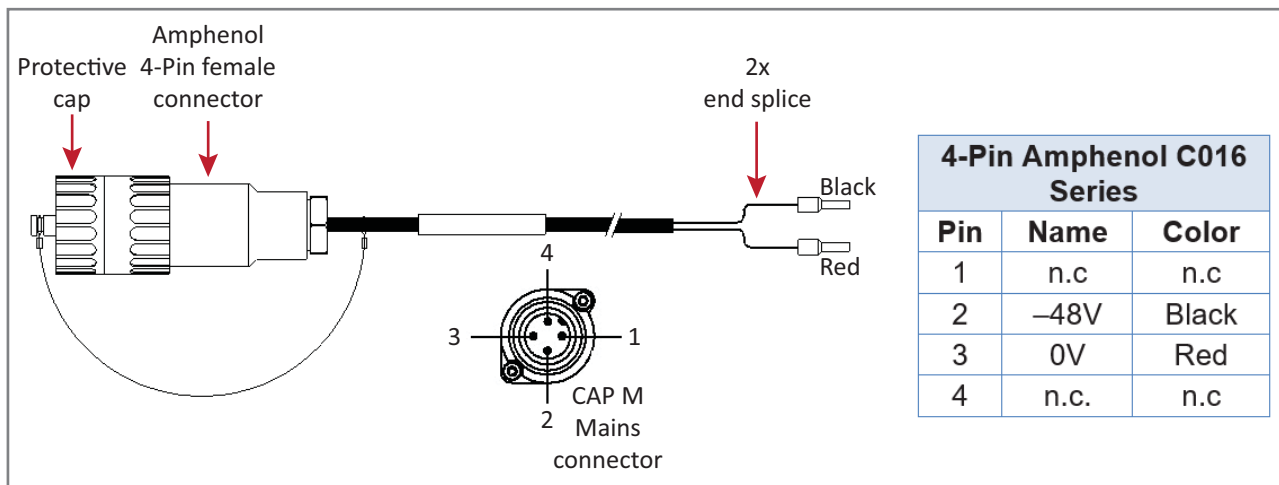

Figure 10. CAP M DC Power Cable
The standard CAP M DC power cable is a 3.2 m (10.5 ft) 13 AWG cable with a 4-pin Amphenol C016 series plug on one end to connect to the CAP M Mains connector. The other end of the cable is unterminated with 2 end splices to connect to the -48 Vdc power source. The standard DC power cable is shown in Figure 10.
- Figure 10 on page 57 for the DC power cable.